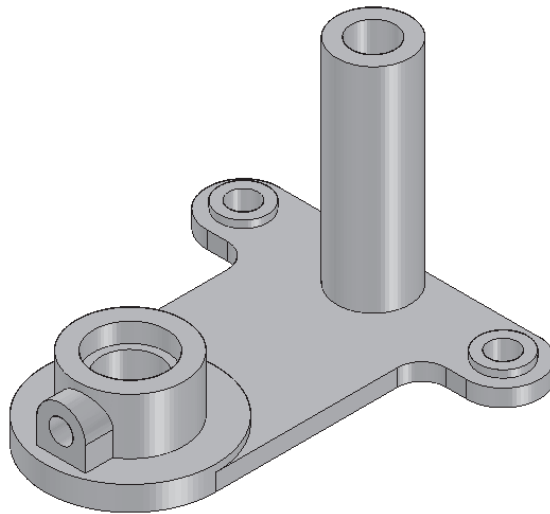

Figure 7-78 Model after adding holes
- Add holes to the model, refer to Figure 7-78.
- Create holes in the model, as shown in Figure 7-78.